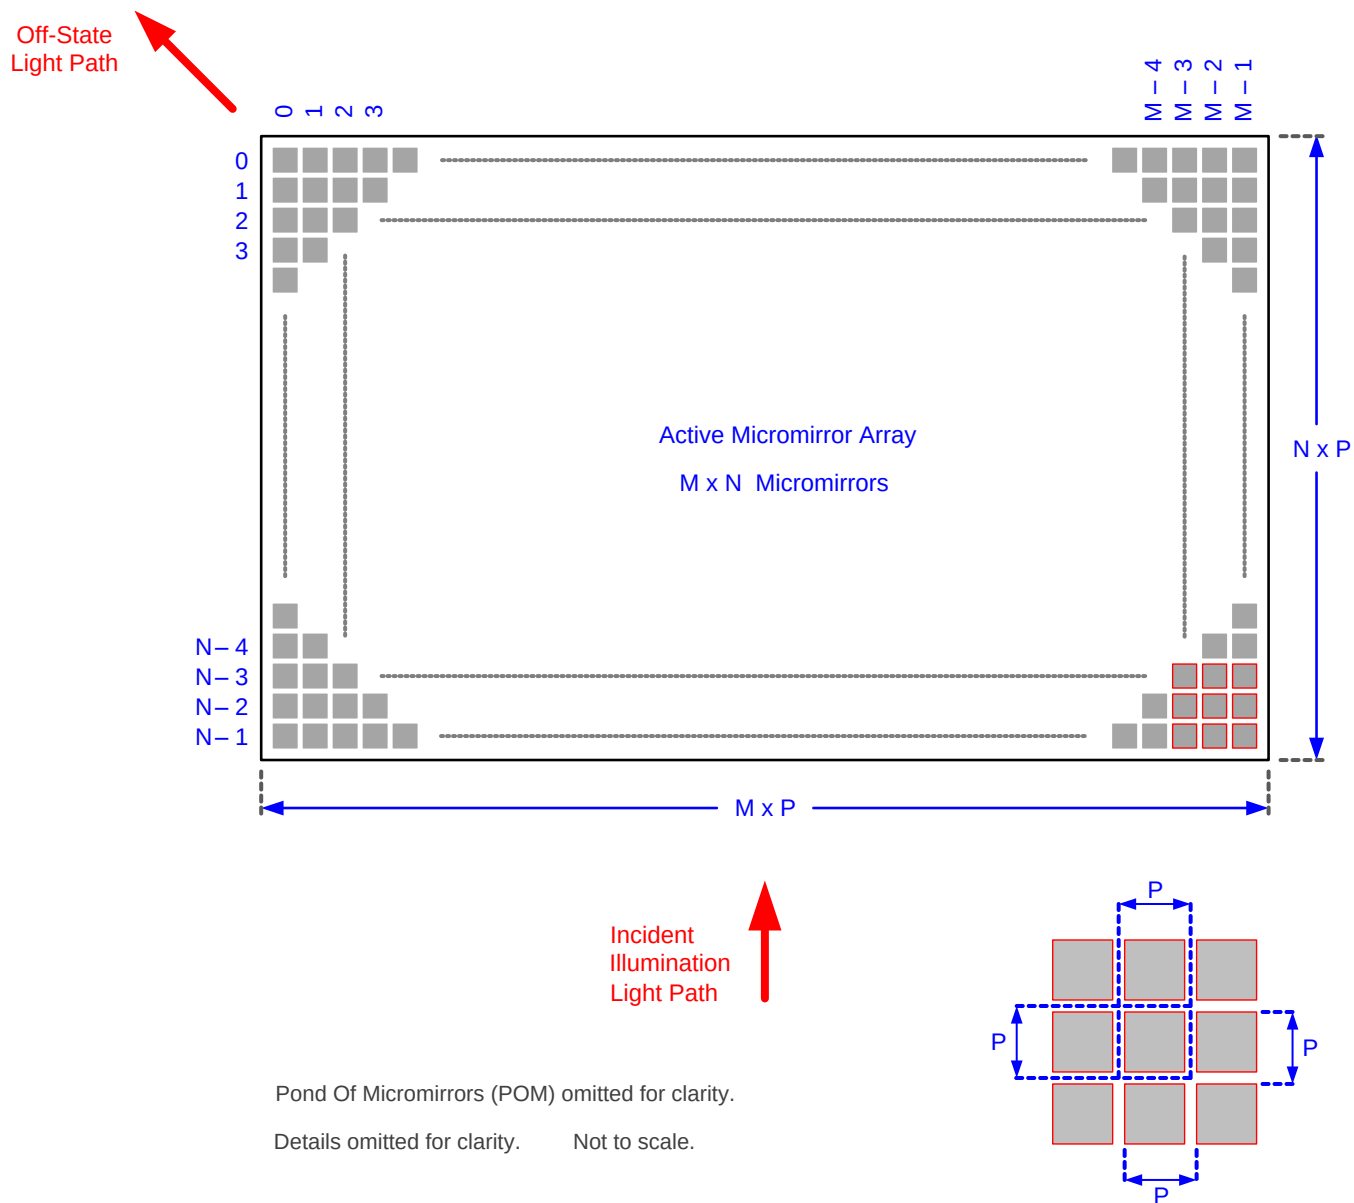

Figure 8. Micromirror Array Physical Characteristics
(1) See Figure 8.
(2) The structure and qualities of the border around the active array includes a band of partially functional micromirrors referred to as the *Pond Of Mirrors (POM)*. These micromirrors are structurally and/or electrically prevented from tilting toward the bright or ON state but still require an electrical bias to tilt toward the OFF state.